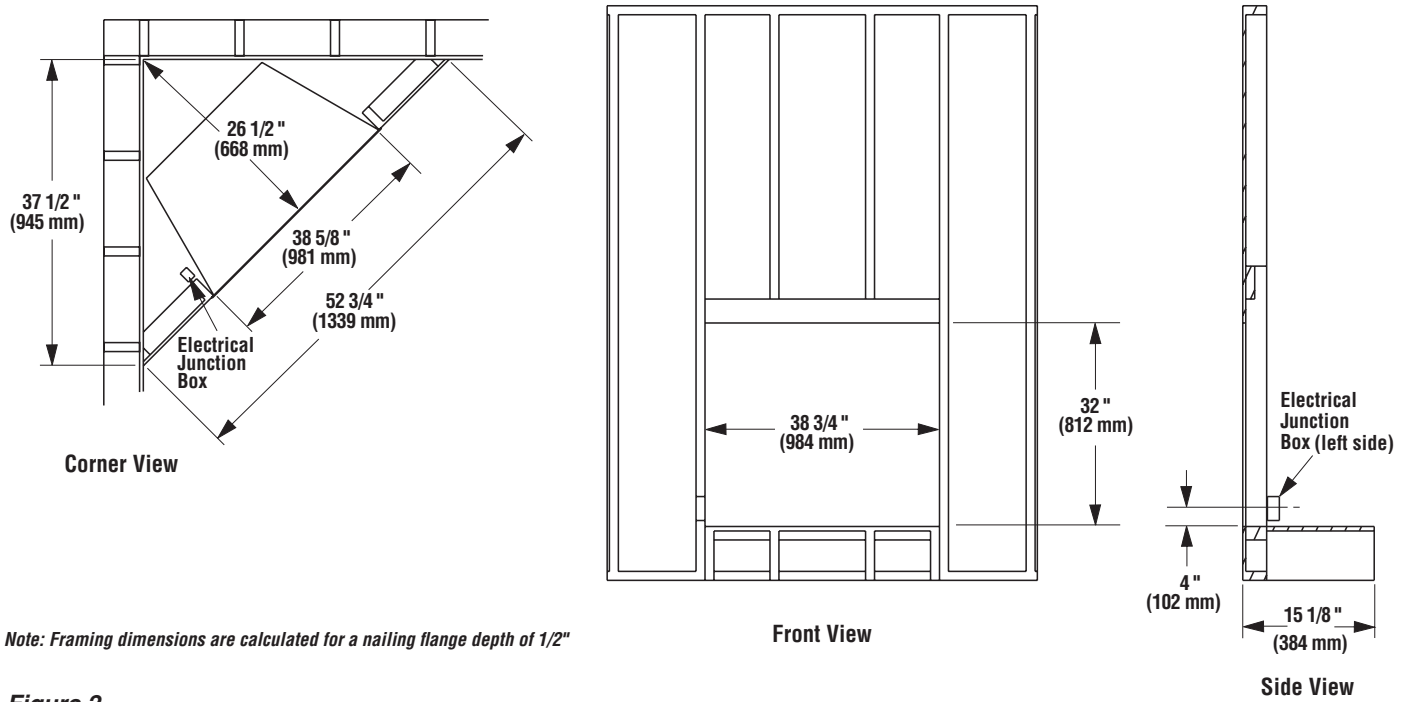

Figure 2
1. Complete the framing opening to the dimensions specified in Figure 2.